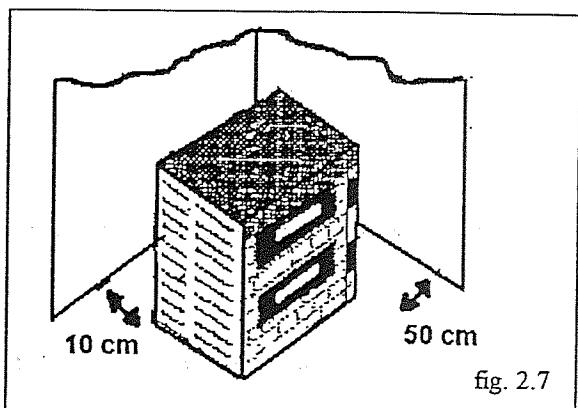

fig. 2.7
**⚠** The oven must be positioned on a flat surface at least 10cm from the wall to ensure adequate ventilation (fig.2.7)